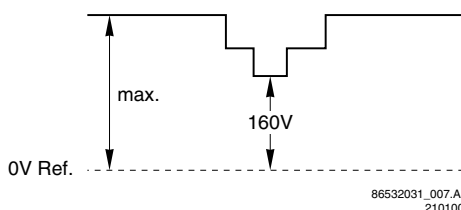

Figure 8-2
3. Connect an oscilloscope (position 50 V/Div DC and 2 ms/Div) alternately to the CRT cathodes (Red pin 8, Green pin 6, Blue pin 11) and measure for each cathode the DC level of the measuring pulse (see elucidation above and figure 8-2) and write down each value. Remark: Trigger the scope external via a CVBS signal (for instance via pin 19 of the SCART1 connection).